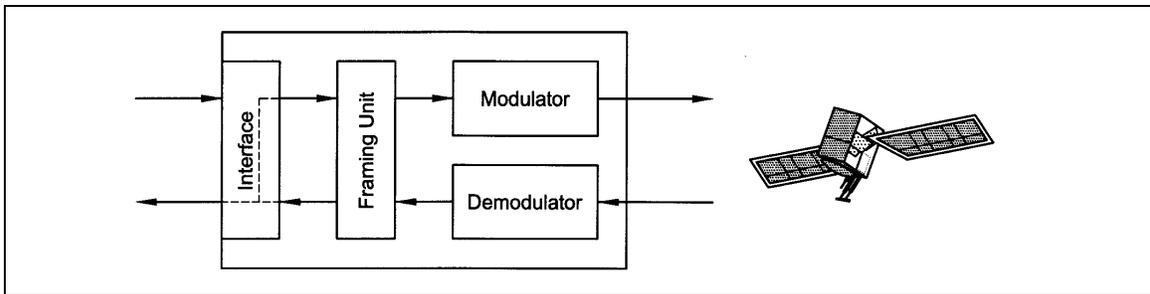

Figure 3-4. Rx Terrestrial Loopback
**Rx Loopback** – The Rx data received by the satellite is looped back through the interface for retransmission to the satellite providing a far end loopback (refer to Figure 3-4).